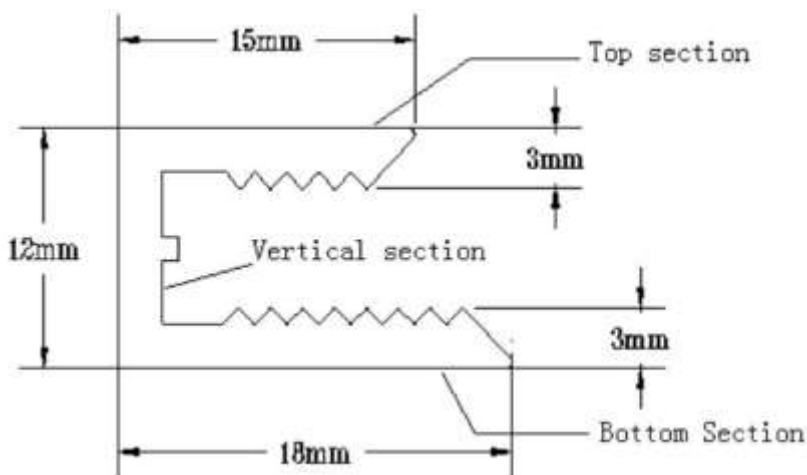

Figure 4. Insulator specification
5.8.5 Clip insulator Must meet following requirements (see figure 4).